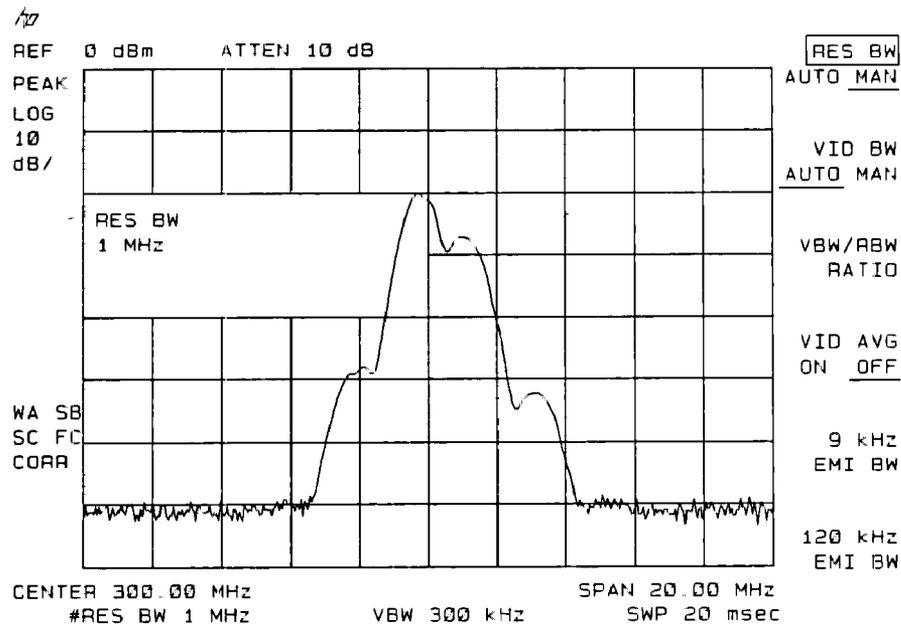

Figure 6-28. Viewing an AM Signal
2. First, center and zoom in on the signal in the frequency domain. (See "Decreasing the Frequency Span Using the Signal Track Function.") Be sure to turn off the signal track function, since the signal track function must be off for zero span. See Figure 6-28.